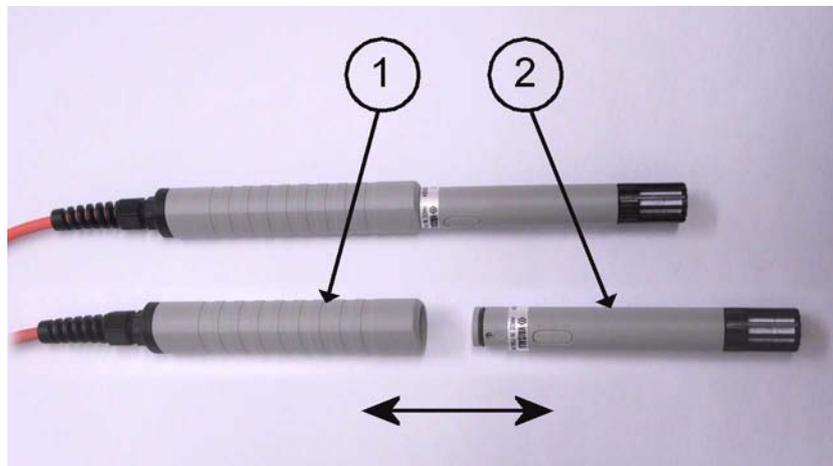

Figure 91 QMH101M Probe Maintenance
3. After the sensor is detached from the radiation shield, pull the probe head out of the handle (see Figure 91 on page 149).
The following numbers refer to Figure 91 on page 149: